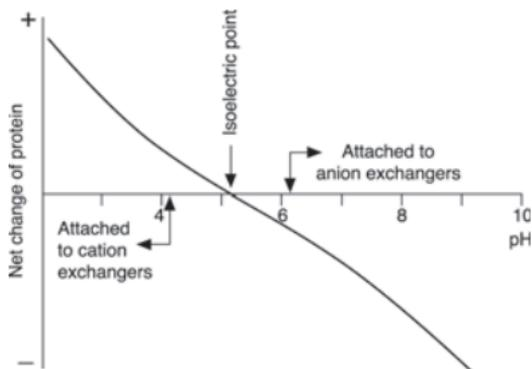

Fig 1. The net charge of a protein as a function of pH.
Ion exchange chromatography is based on adsorption and reversible binding of charged sample molecules to oppositely charged groups attached to an insoluble matrix. The pH value at which a biomolecule carries no net charge is called the isoelectric point (pI). When exposed to a pH below its pI, the biomolecule will carry a positive charge and will bind to a cation exchanger (SP). At pH's above its pI the protein will carry a negative charge and will bind to an anion exchanger (Q). If the sample components are most stable below their pI's, a cation exchanger should be used. If they are most stable above their pI's, an anion exchanger is used. If stability is high over a wide pH range on both sides of pI, either type of ion exchanger can be used (Figure 1).